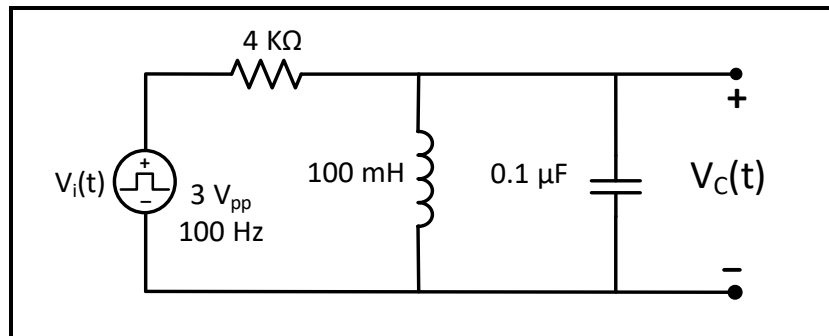

Figure 5.13
For the circuit of Figure 5.13:
1. Connect the circuit in Figure 5.13, keeping the previous setting of the function generator (Square wave output, $3 V_{pp}$, DC offset 1.5 V, $f = 100$ Hz), (Use decade box for R).